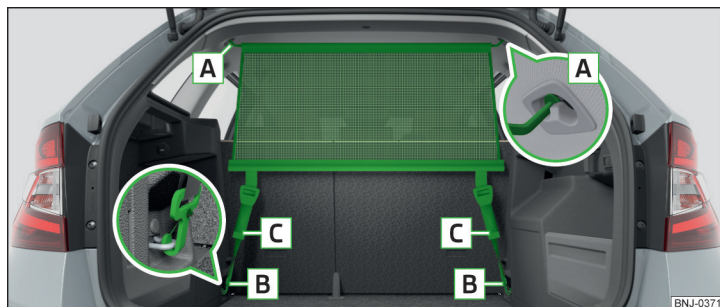

Fig. 111 Net partition behind the rear seats
- First insert the rod into the mount » Fig. 111 on one side and push it forwards. Insert the transverse rod into the mount on the other side of the vehicle in the same way.